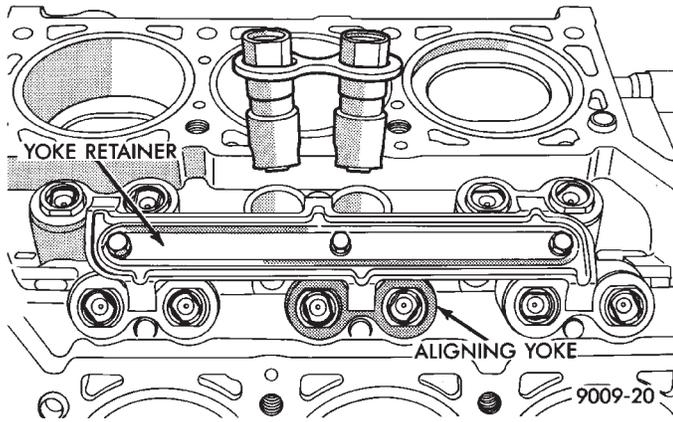

Fig. 26 Roller Tappets Aligning Yoke and Retainer
Roller tappet alignment is maintained by machined flats on tappet body being fitted in pairs into six aligning yokes. The yokes are secured by an alignment yoke retainer (Fig. 26).
- (1) Lubricate tappets.
- (2) Install tappets in their original positions.
- (3) With roller tappets, install aligning yokes with (Fig. 26).
- (4) Install yoke retainer and torque screws to 12 N·m (105 in. lbs.) (Fig. 26).
- (5) Install cylinder heads. Refer to cylinder head installation of this section for procedure.
- (6) Start and operate engine. Warm up to normal operating temperature.